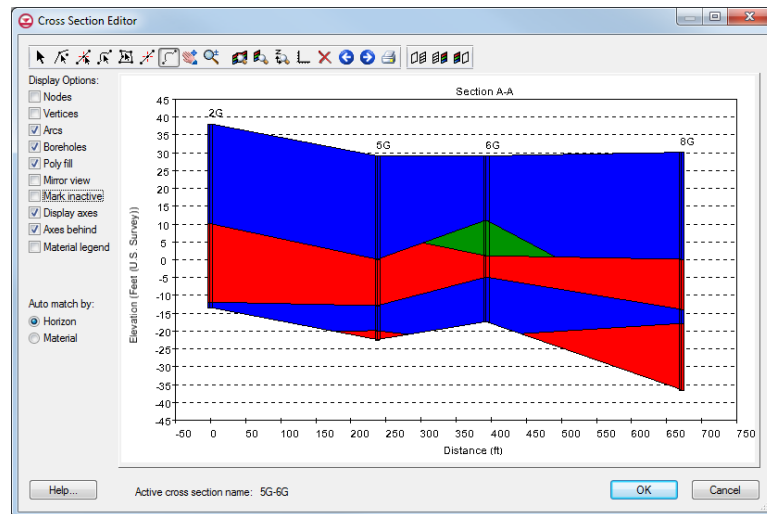

Figure 7 Multi-panel cross section ready for printing
11. In the *Display Options* section on the left, turn off *Nodes*, *Vertices*, and *Mark inactive*. The plot should now look something like Figure 7.